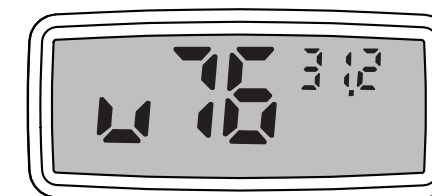

Figure 13 Calibration Mode screen
4. Press the II button (on the right) once to get the Calibration Mode screen (Figure 13).
Figure 13 shows that the PAWKIT is ready to have its calibration adjusted up for the 0.76 standard. The number in the upper right corner indicates the water activity measurement that the PAWKIT just read. Press the II button to scroll through the other selections. They are: u76, d76, u25, d25, Sto, u92, and d92. The u and d before each number stand for up or down adjustment for each standard. The numbers (25, 76, and 92) correspond to the water activity of a verification standard (0.76, 0.25, and 0.92  $a_w$ ). The Sto position stores a reading.